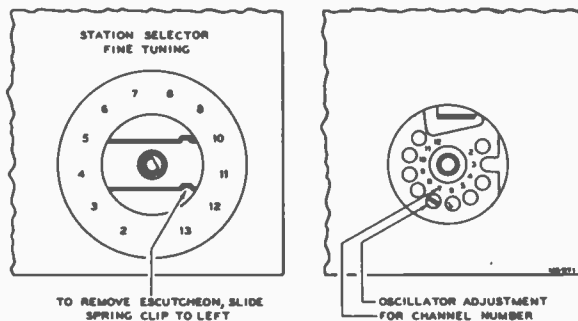

Figure 4—R-F Oscillator Adjustments
**CHECK OF R-F OSCILLATOR ADJUSTMENTS.**—Tune in all available stations to see if the receiver r-f oscillator is adjusted to the proper frequency on all channels. If adjustments are required, these should be made by the method outlined in the alignment procedure on page 9. The adjustments for channels 2 through 12 are available from the front of the cabinet by removing the station selector escutcheon as shown in Figure 4. Adjustment of channel 13 is on top of the chassis.